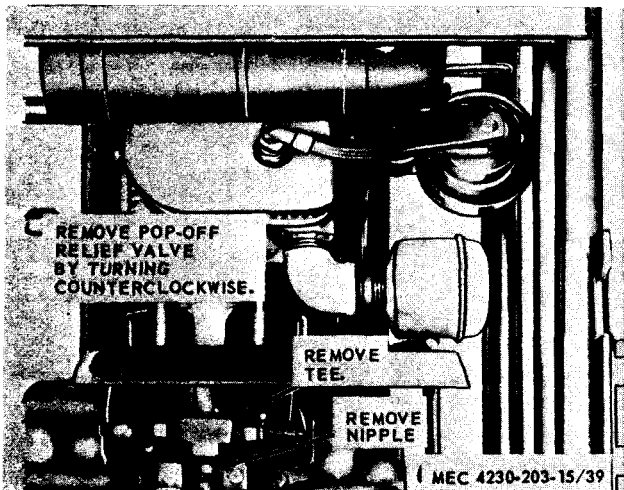

Figure 4-25. Pop-off relief valve, removal and installation.
a. Removal Refer to figure 4-25 and remove the pop-off relief valve. Model CDR 70000 has two (2) relief valves, model CDR 70000B has one (1) relief valve.
- (1) Clean the valve with solvent and dry thoroughly.
- (2) Inspect for cracks, breaks, and other damage.
- (3) Replace a damaged or defective pop-off relief valve.
c. Installation. Refer to figure 4-25 and install the pop-off relief valve.